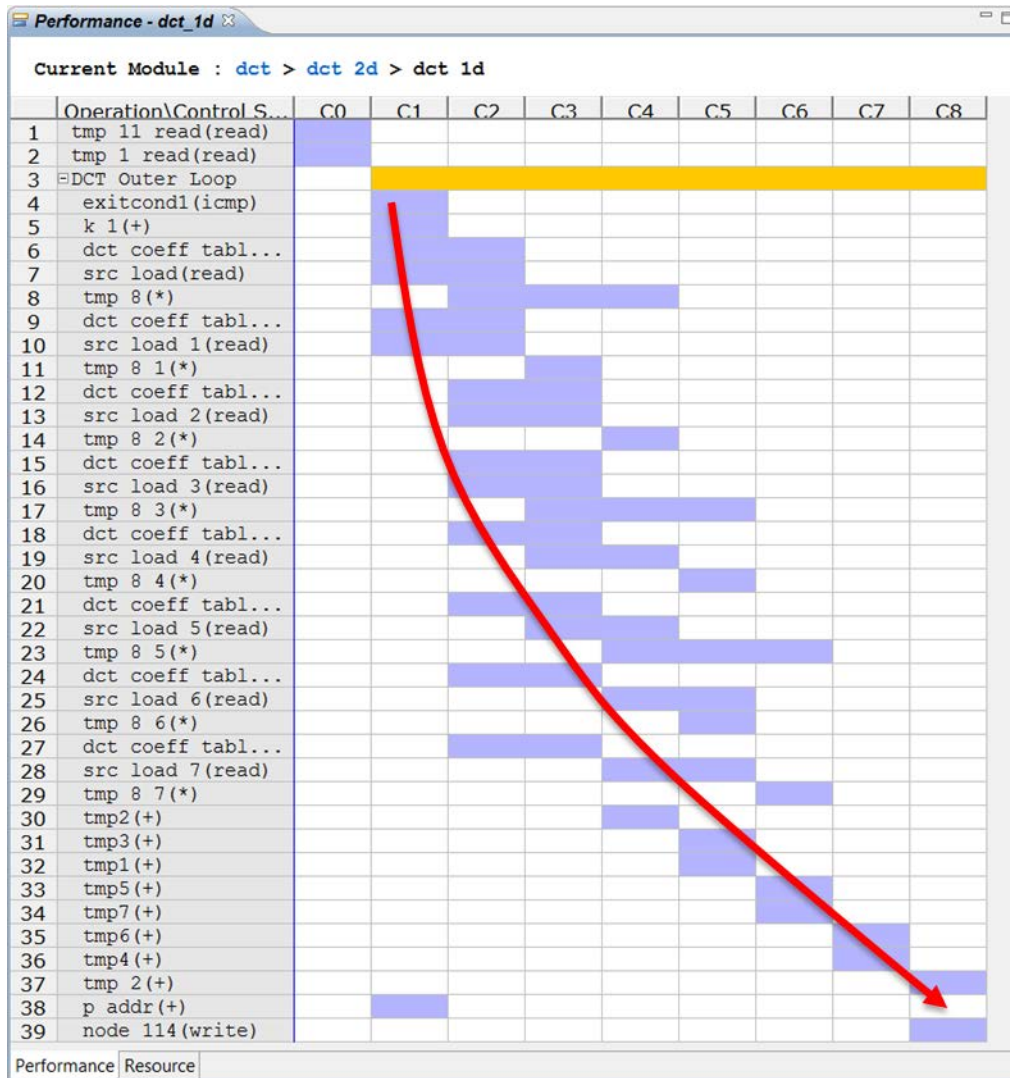

Figure 128: Analysis of dct_1d RD_Loop_Row
13. Expand the `DCT_Outer_Loop` to see the view shown in **Figure 128**.
Figure 128 shows a very different view from the earlier loop schedules (which had only a few cycles of latency). The schedule shows a long drift from input to output (as shown by the red arrow).